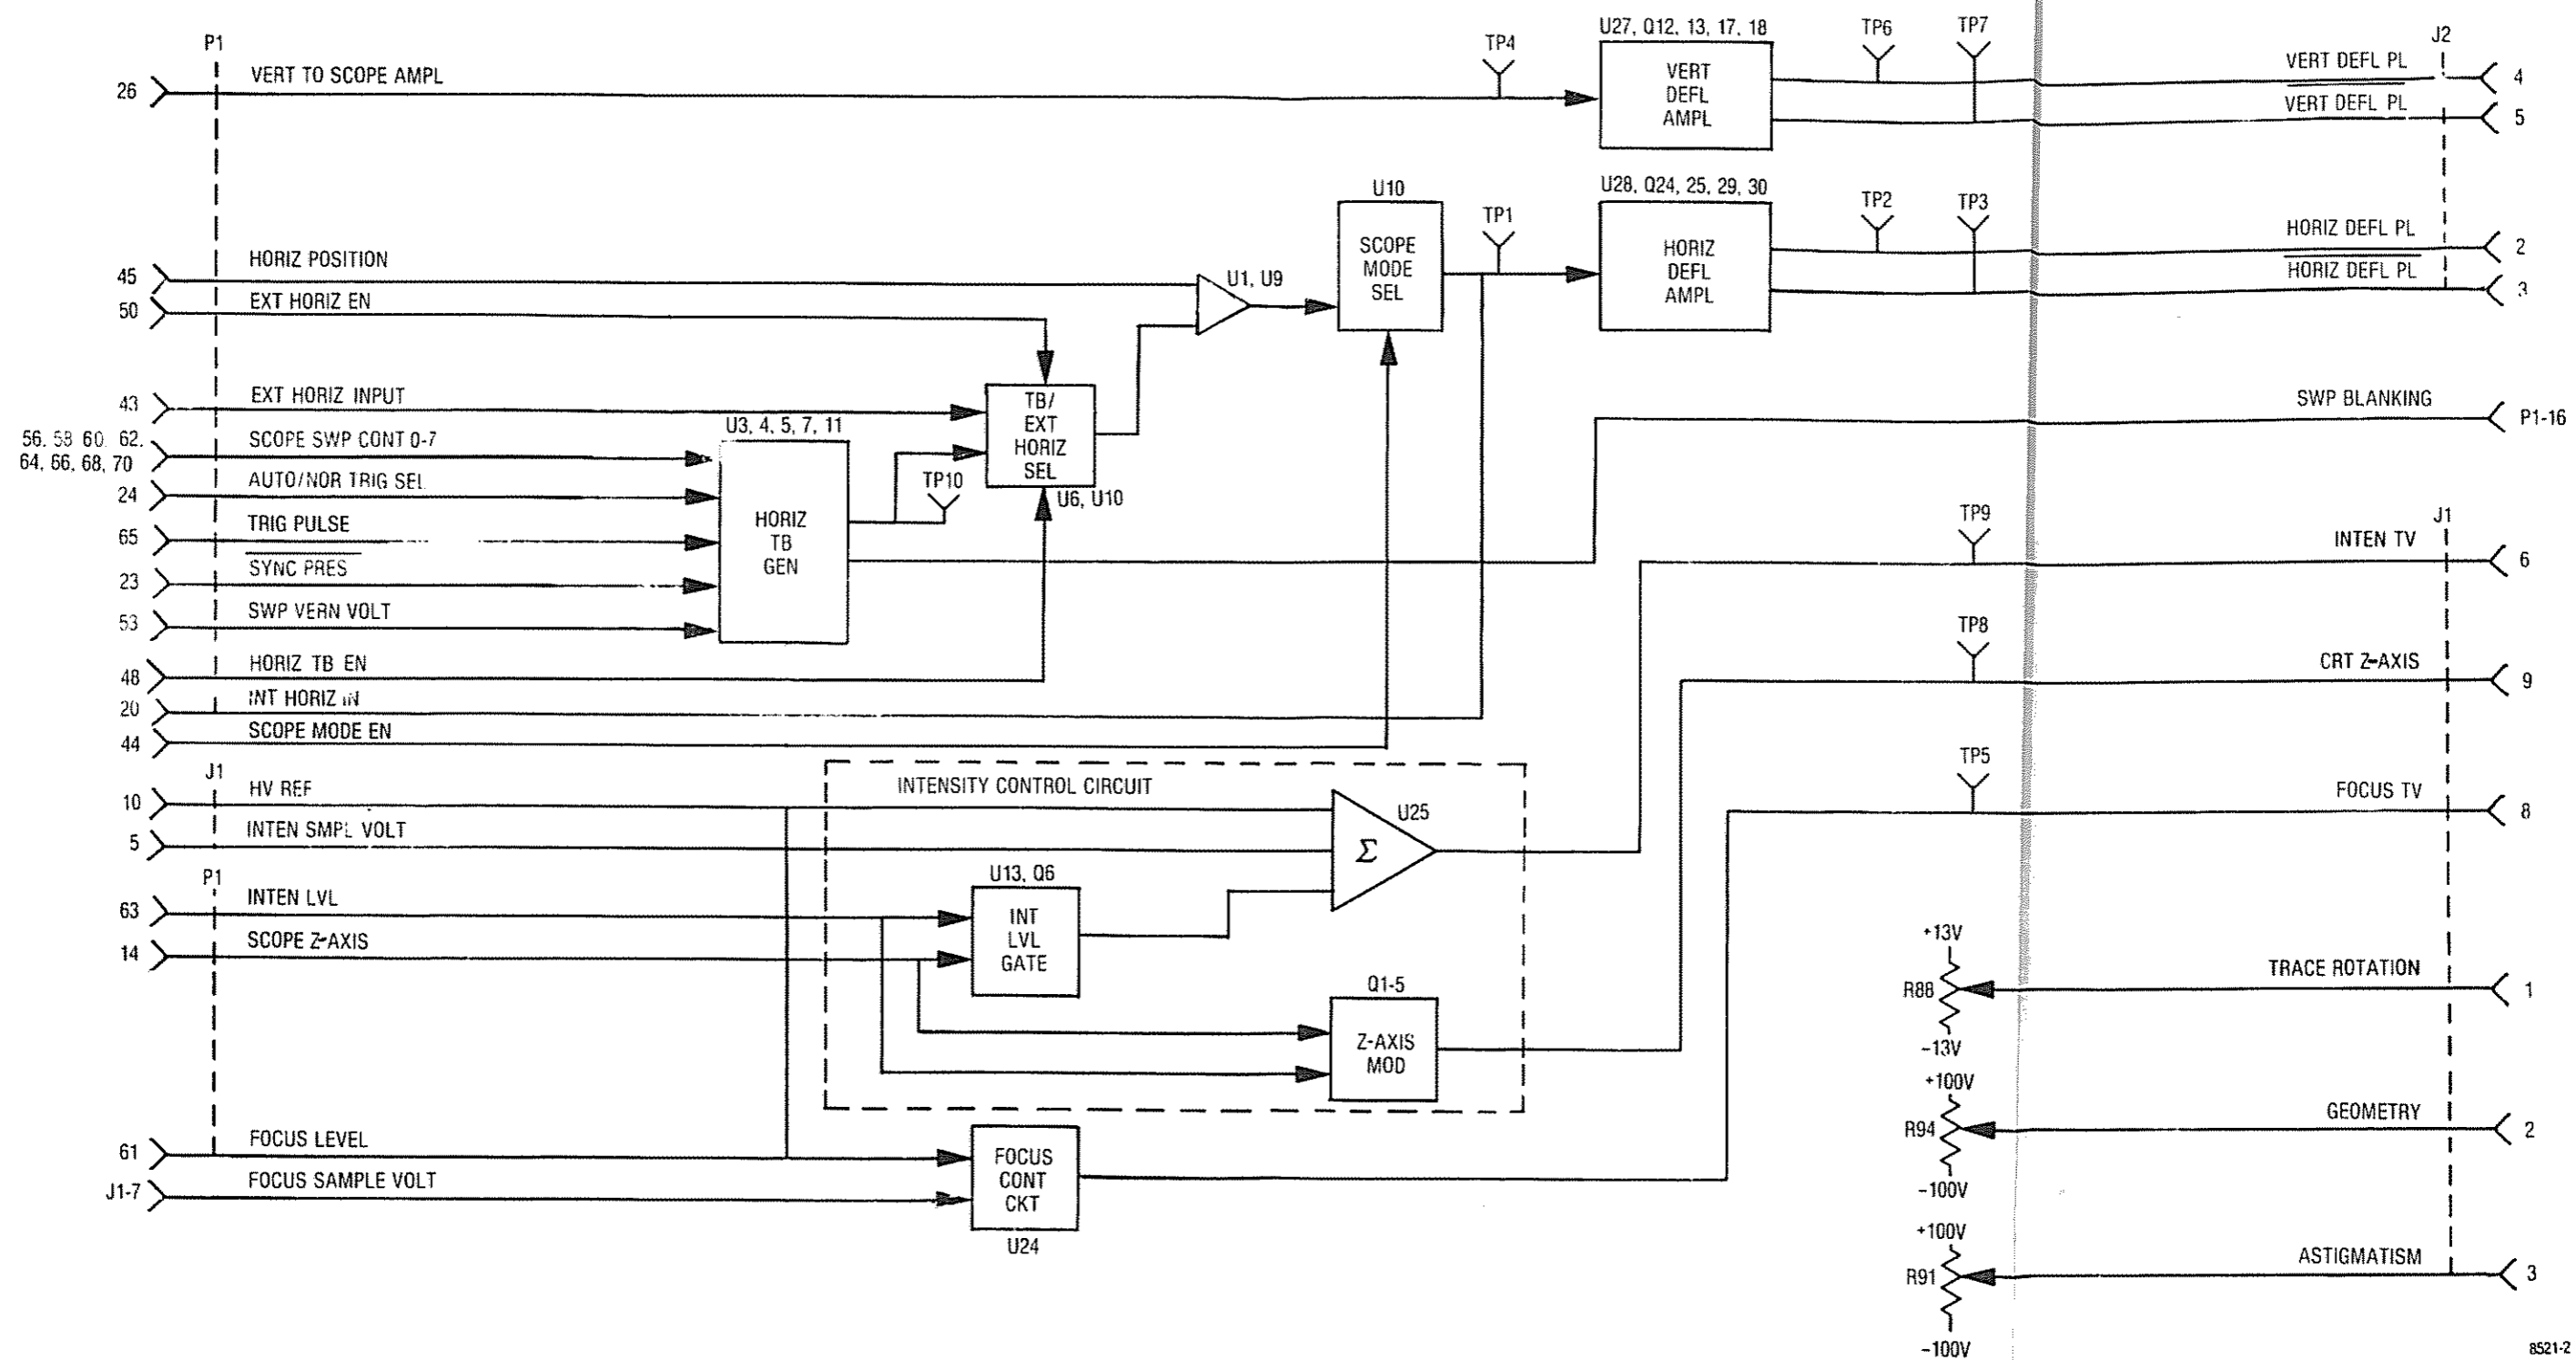

Figure 8-1. Vertical/Horizontal Scope Amplifier A2 Block Diagram
**8-1. General.** The Scope Amplifier module contains the horizontal and vertical deflection amps, the horizontal timebase generator, focus and intensity control circuitry, and miscellaneous CRT bias adjustments. A block diagram of the Scope Amplifier module is shown in figure 8-1 with its schematic shown in figure 8-2.